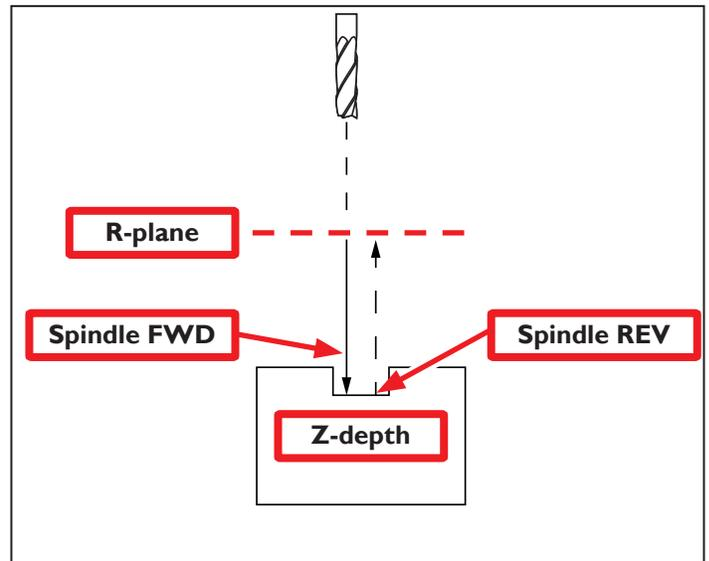
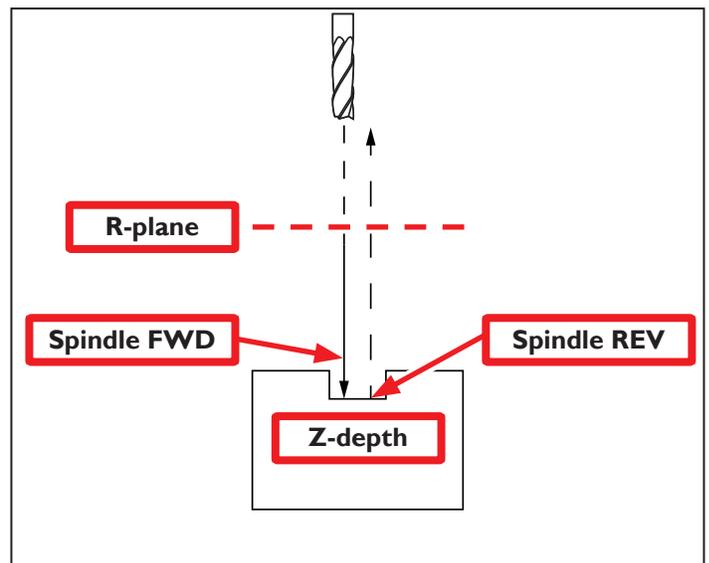

Figure 7.8
Figure 7.9
- After the tapping operation is completed, either a G98 or G99 command controls the return height. G99 returns the tool to the R-plane (see **Figure 7.8**); G98 returns the tool to the initial height (see **Figure 7.9**).